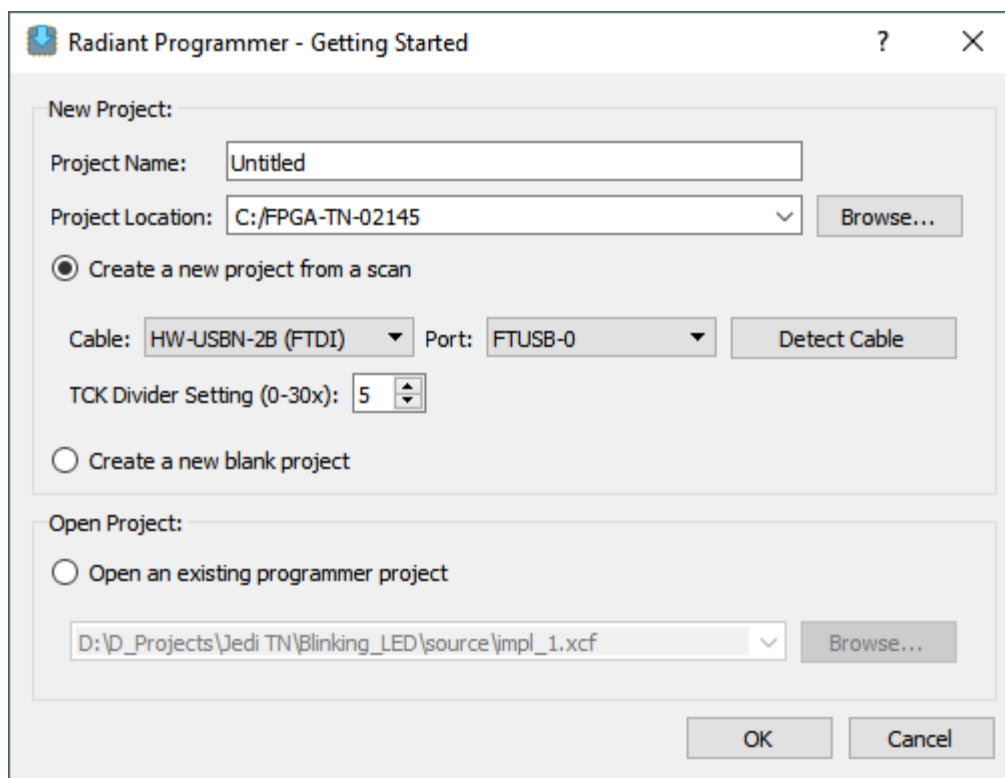

Figure 7.1. Radiant Programmer – Getting Started Window
3. Radiant Programmer – Getting Started window opens (Figure 7.1).